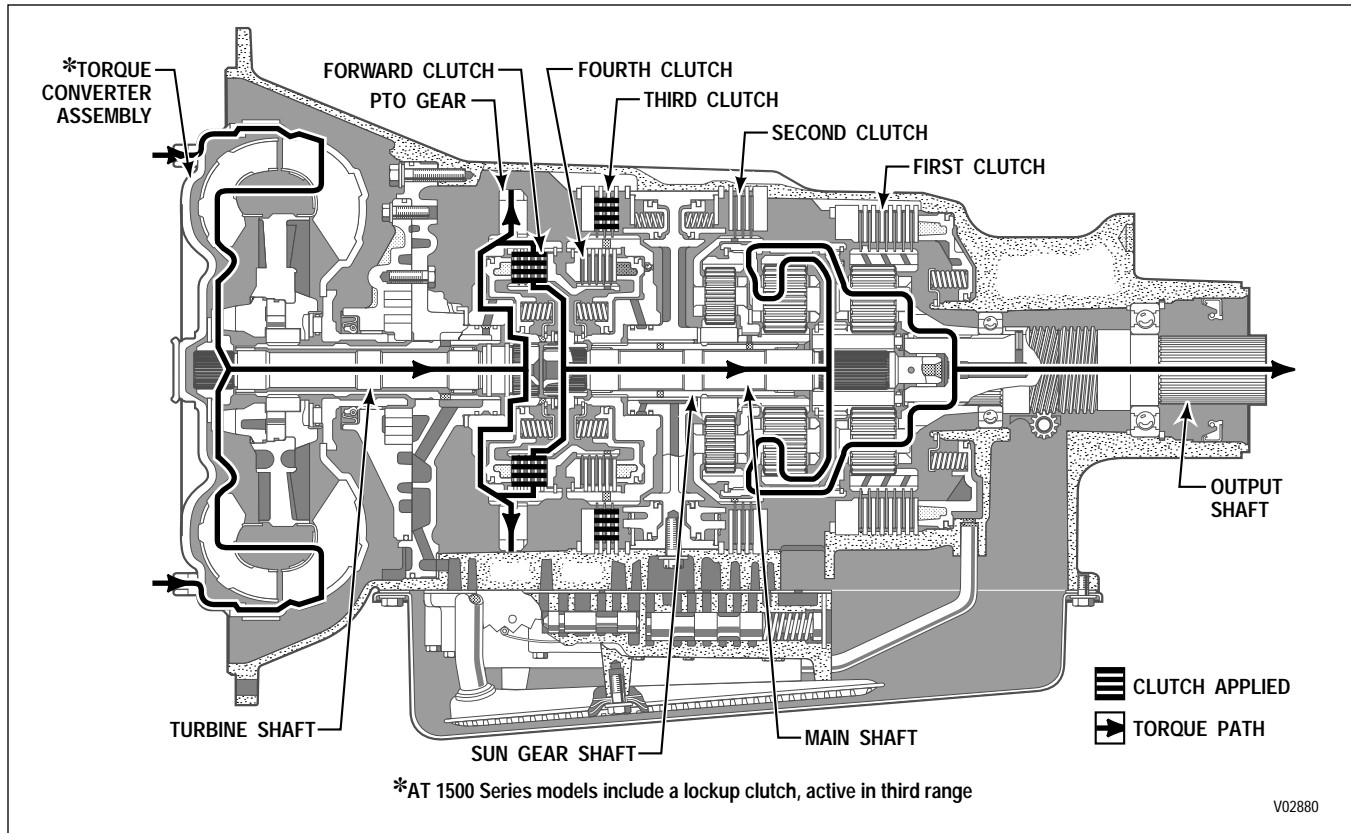

Figure 2-4. Third Range Power Flow
e. Third-Range Operation (Figure 2-4). The forward and the third clutches are applied. The third clutch application anchors the sun gear shaft against rotation, which, in turn, prevents the center sun gear (splined to rear of shaft) from rotating. The forward clutch application locks the turbine shaft and main shaft together, to rotate as a unit. The rear sun gear is splined to both the main shaft and the center ring gear and rotates at turbine speed. With the center sun gear stationary and the center ring gear rotating, the ring gear drives the center planetary carrier pinions. This carrier (and also the rear planetary carrier) is splined to the planetary connecting drum and rotates with it as a unit. The rear carrier is splined to the transmission output shaft which produces an output ratio of 1.41:1.